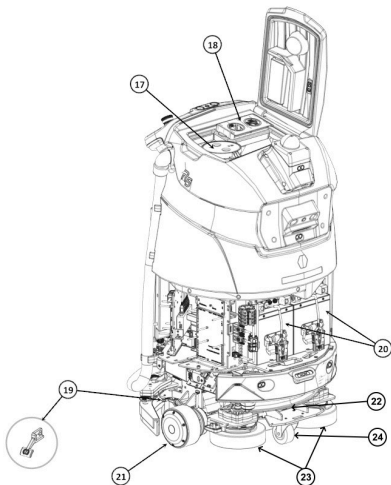

Figure 3
- 17. Debris cage (Figure 3)
- 18. HEPA filter (Figure 3)
- 19. Safety lever (Figure 3)
- 20. Battery (Figure 3)
- 21. Traction wheel (Figure 3)
- 22. Water filter (Figure 3)
- 23. Cleaning head (Figure 3)
- 24. Caster (Figure 3)